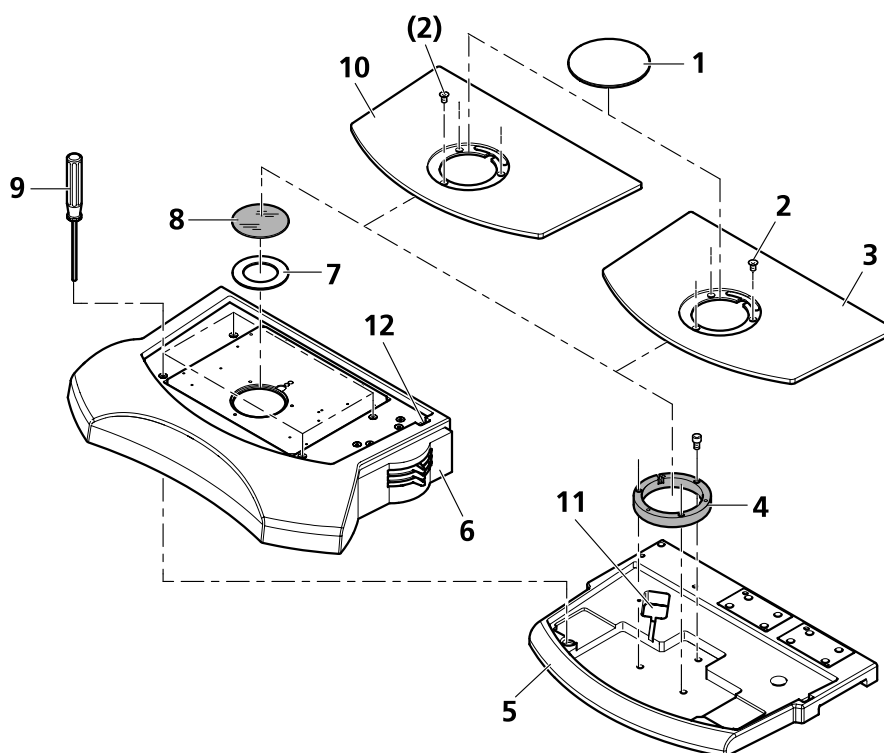

Fig. 14 Installing the transmitted-light equipment S
- If the adapter ring (Fig. 14/4) is not mounted (e.g. after the removal of the transmitted-light equipment S), use three Allen screws (SW 3) to fasten it to the stand base (Fig. 14/5); then, put the insert plate (Fig. 14/3) onto the base.
- Fasten the insert plate (Fig. 14/3) without stage adapter to the adapter ring (Fig. 14/4) by means of three short Allen screws (Fig. 14/2).
- Remove the insert plate (Fig. 14/3). To this end, loosen the three short Allen screws (Fig. 14/2), lift up the insert plate (using the grip hollow at the right edge of the stand base (Fig. 14/5)) and, taking hold of it with both hands, remove it safely.
- Loosen the three Allen screws (SW 3) of the adapter ring (Fig. 14/4) with the ball-headed screwdriver and remove the adapter ring.
- Put the transmitted-light equipment S (Fig. 14/6) laterally correct onto the stand base. Verify that the two large plastic taper pins on the bottom of the transmitted-light equipment S engage with the respective holes of the stand base.
- Use the ball-headed screwdriver (Fig. 14/9) to screw down the four countersunk Allen screws (SW 3) hand-tight on the transmitted-light equipment S.
- Put the insert plate (Fig. 14/3) onto the transmitted-light equipment S (Fig. 14/6).
- Insert the opal glass plate \varnothing 84 mm (Fig. 14/8) to avoid that screws and other small parts get lost during the further installation work.
- Using the three, short Allen screws (Fig. 14/2) fasten the insert plate (Fig. 14/3) (without stage - adapter) to the transmitted-light equipment S.
- Replace the opal glass plate \varnothing 84 mm (Fig. 14/8) by insert 52/84 (Fig. 14/7).
- Insert the 120 mm glass plate (Fig. 14/1); to remove it again, press on its rear edge.
If working with manipulators with magnetic feet (e.g. YOU-1 manipulator set, GJ-1 magnetic stand or TSA-Z magnetic stand of Narishige), the ferromagnetic insert plate 450 (Fig. 14/10) can be inserted alternatively to the stand insert plate (Fig. 14/3).
- Fasten the ferromagnetic insert plate 450 (Fig. 14/10) with three short Allen screws (Fig. 14/2) (without stage adapter 84/120 mm) to the transmitted-light equipment S (Fig. 14/6).
- If you use the heatable ferromagnetic insert plate 450, pass the two heating cables through the lateral cavity (Fig. 14/12) in the transmitted-light equipment S and then to the outside.
- Fasten the heatable ferromagnetic insert plate 450 (Fig. 14/10) with three short Allen screws (Fig. 14/2) (without stage adapter 84/120 mm) to the transmitted-light equipment S.
- Fasten the ferromagnetic insert plate 450 (Fig. 14/10) with three short Allen screws (Fig. 14/2) (without stage adapter 84/120 mm) to the adapter ring (Fig. 14/4) of the stand plate (Fig. 14/5).
- If you use the heatable ferromagnetic insert plate 450, pass the two heating cables through the recess (Fig. 14/11) formed in the stand plate and then to the outside.
- Fasten the heatable ferromagnetic insert plate 450 (Fig. 14/10) with three short Allen screws (Fig. 14/2) (without stage adapter 84/120 mm) to the adapter ring (Fig. 14/4) of the stand plate (Fig. 14/5).